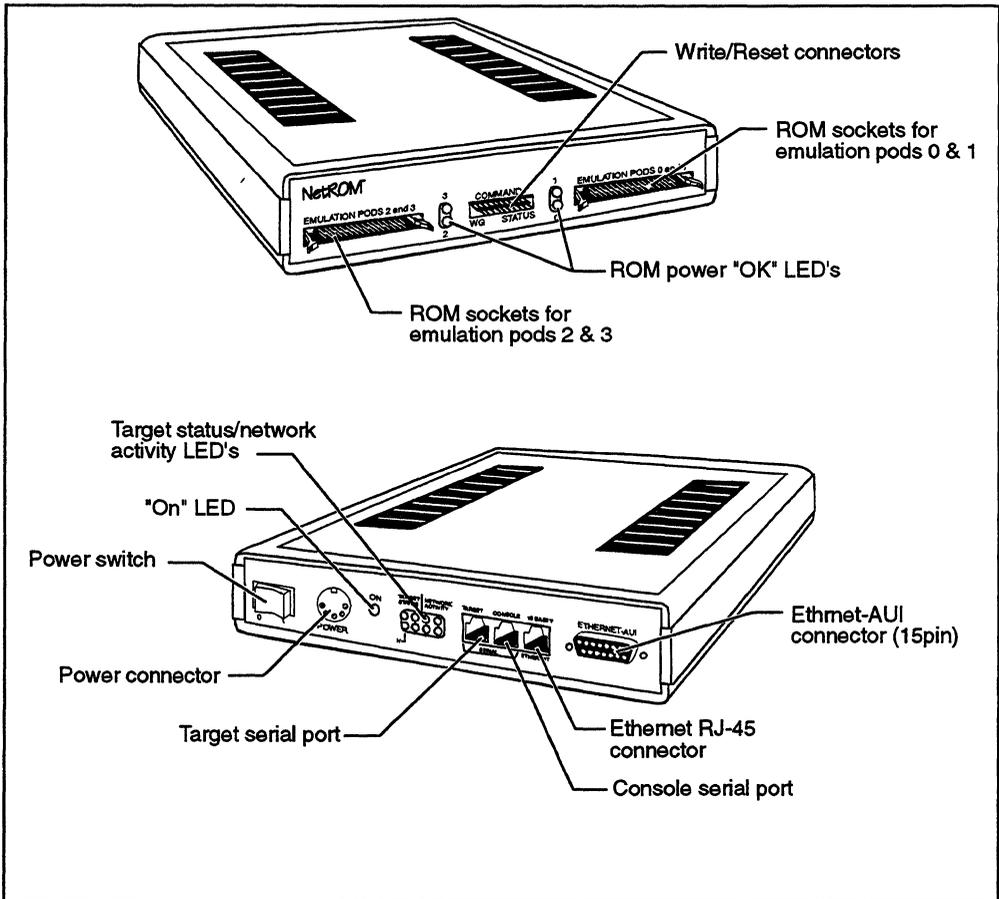
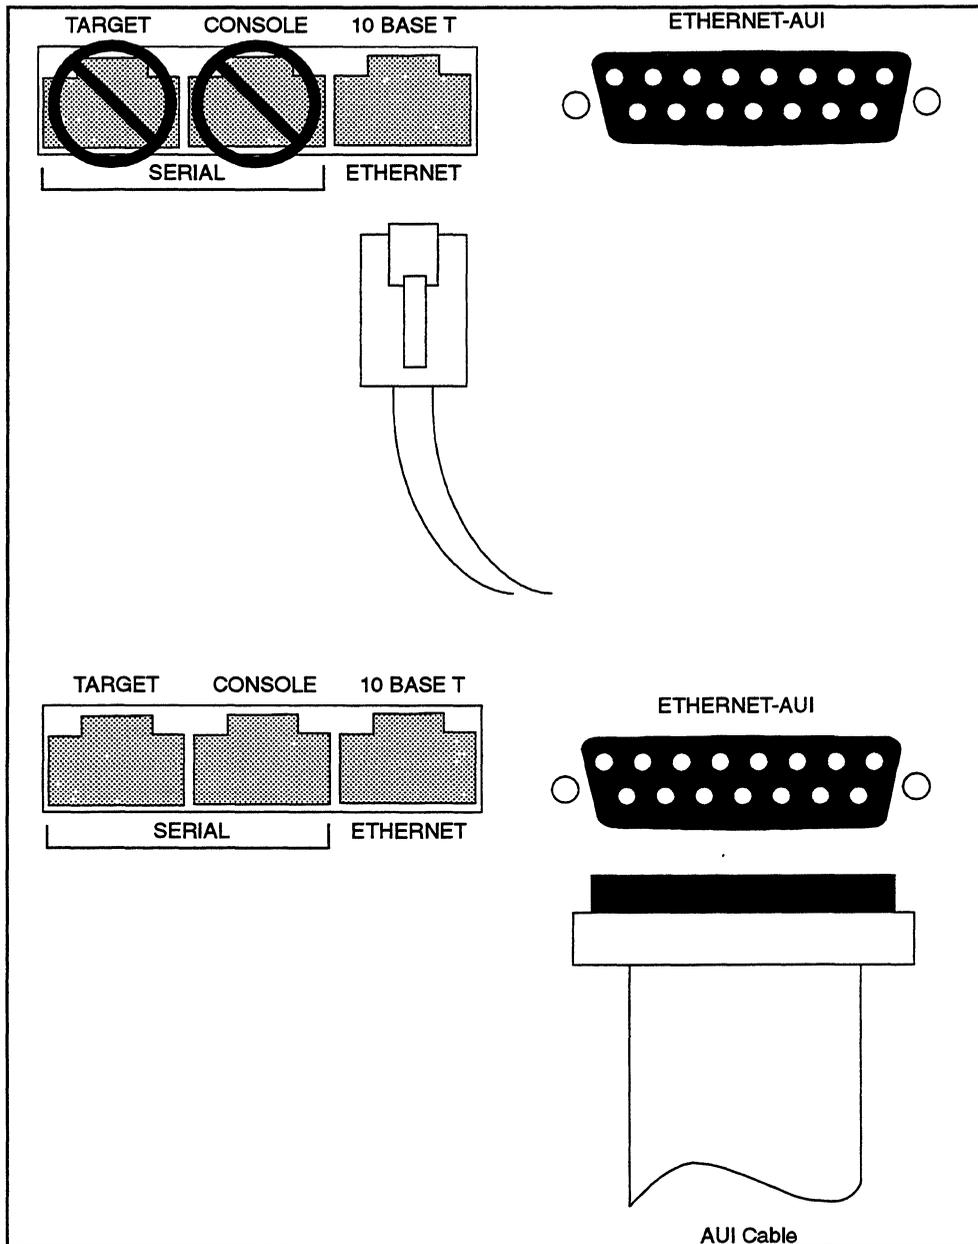
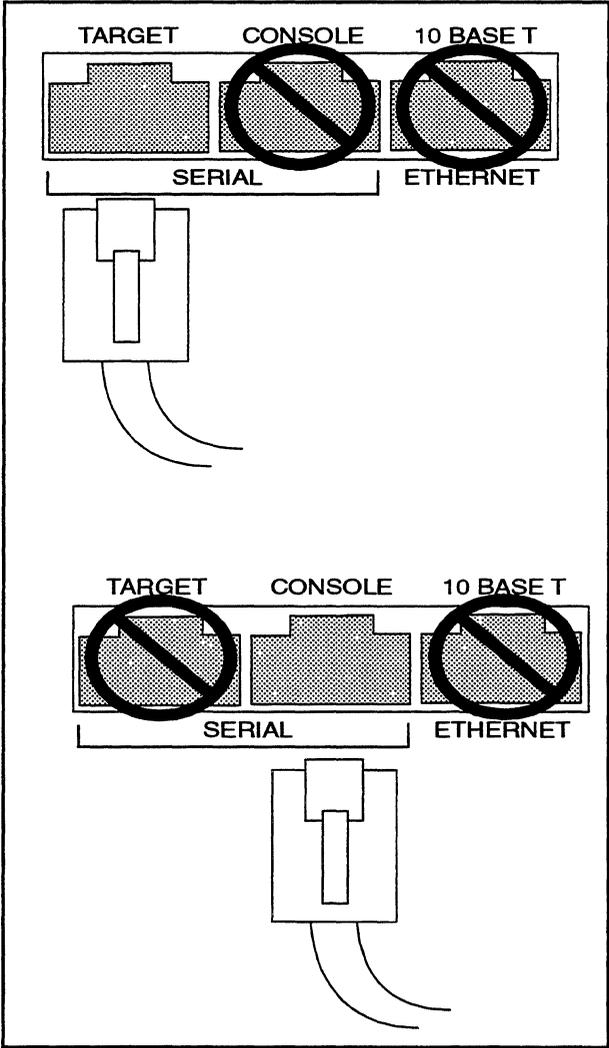
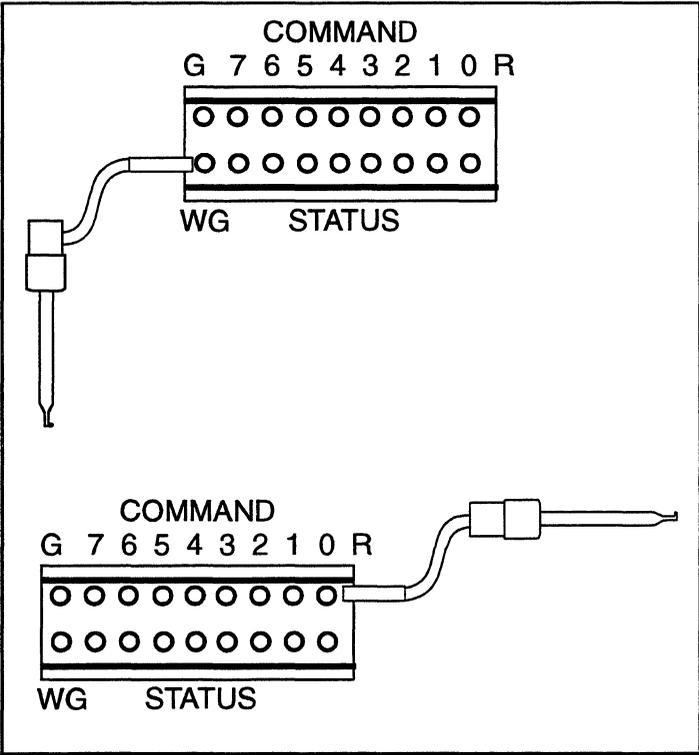

Figure 3-2 Connecting Hardware
Figure 3-3 Connecting Ethernet
Figure 3-5 Connecting NetROM Serial Ports
Figure 3-6 Connecting Wire/Reset Cables
This section explains how to install external connections to the various connectors on NetROM. Figure 3-2 illustrates the front and rear panels of the NetROM, and the call-out numbers in the figure are referenced in the following sub-sections.
NetROM may be connected to the Ethernet via one of two means. Figure 3-2 shows the location of the connectors on the back of the NetROM, and Figure 3-3 shows the two connectors in detail. Note that no switches or jumpers need be set on NetROM when changing the type of Ethernet connection. NetROM automatically configures for whichever network
An Ethernet transceiver is required when connecting NetROM to either thin or thick Ethernet cable. When using this type of Ethernet connection the transceiver is connected via an Attachment Unit Interface (AUI) cable to the 15-pin AUI connector on the rear panel of NetROM (Figure 3-3). Other connections for the transceiver should be performed according to the instructions supplied by the transceiver manufacturer.
NetROM may also be connected to 10 Base-T networks via an RJ-45 connector (Figure 3-3).
There are multiple versions of the ROM emulation cables available for NetROM. ROM emulation cables vary depending on the format of the ROM package located on the target system. The cables all connect to NetROM through 80-pin female emulation pod connectors. Emulation pods 0 and 1 are connected to the NetROM socket shown in Figure 3-2; emulation pods 2 and 3 are connected the NetROM socket shown in Figure 3-2. Refer to “podorder” on page 4-117.
For systems with an 8-bit word size there are four possible configurations, namely using 1, 2, 3 or 4 ROMs. Figure 3-2 shows mapping between NetROM emulation pods and the target's ROM addresses assuming a 256 Kilobyte (27c020) ROM. Also included are the data bits supplied by each emulation pod.
DIP-style cables are used to connect NetROM to targets that contain DIP ROM packages. Available in 28-, 32-, and 40-pin versions, these cables plug directly into the ROM sockets on the target system. Before connecting the emulation cables to the target system, be certain to turn off power to the target system. Remove any ROMs currently in the ROM sockets on the target. *Be certain to align pin 1 on the ROM emulation cable DIP connector with pin 1 on the target DIP socket.* The ROM power "OK" LEDs (see Figure 3-2) will light when the cables are plugged in correctly and the target system is powered on.
PLCC style cables are used to connect NetROM to targets which use PLCC ROM packages. These cables plug directly into the ROM sockets on the target system. Before connecting the emulation cables to the target system, be certain to turn off power to the target system. Remove any ROMs currently in the target sockets. *Be certain to align pin 1 on the emulation cable to pin 1 on the target PLCC socket*; one corner of the emulation cable's PLCC plug is cut off to indicate the location of pin 1. The power "OK" LEDs (Figure 3-2) will light when the cables are plugged in correctly and the target system is powered on.
The NetROM console connection allows the NetROM user to communicate with the NetROM executive via a serial device such as a terminal. Figure 3-2 shows the location of the console port on the rear of the NetROM, and Figure 3-5 is a view of the NetROM console socket. The pinouts for the NetROM console connector are shown in Appendix A, and Appendix E gives the default configuration of the Console Serial Port. The serial connection should be made using an RJ-45 connector. The 9- and 25-pin connectors supplied with NetROM are DTE, not DCE. The DTR signal is always "true," and that the DSR signal is ignored.
The NetROM target serial port allows the NetROM user to access the target system's serial port. Figure 3-2 shows the location of the target serial port on the rear of the NetROM, and Figure 3-5 is an exploded view of the target serial socket. The pinouts for the NetROM serial port are shown in Appendix A, and Appendix E gives the default configuration of the Target Serial Port.
- ❑ If you need to connect the Write signal, connect a jumper cable from the target system's write strobe to the Write pin on the front panel of NetROM (Figure 3-2 and Figure 3-6). The write signal is “active low” and is expected to occur in conjunction with a normal write cycle.
The Reset signal is output by NetROM to reset the target system. This allows the NetROM user to reset their target system remotely. A jumper cable should be connected from the target's Reset signal to the Reset pin on the front panel of NetROM (see Figure 3-2).